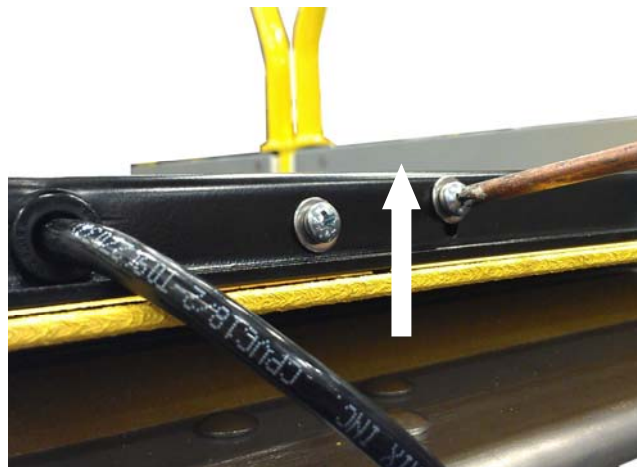

FIGURE 2-13. BRIDGEPLATE SWITCH RESET
- 5.) Refer to **Figure 2-13**. Make adjustment by loosening the adjustable screw by shifting screw to top of slot then tighten the adjustable screw to secure position. This will reset the position of the bridgeplate switch so that it is not activated.
- 6.) Refer to **Figure 2-13**. Slightly tighten screw then shift screw slowly, downward for adjustment.